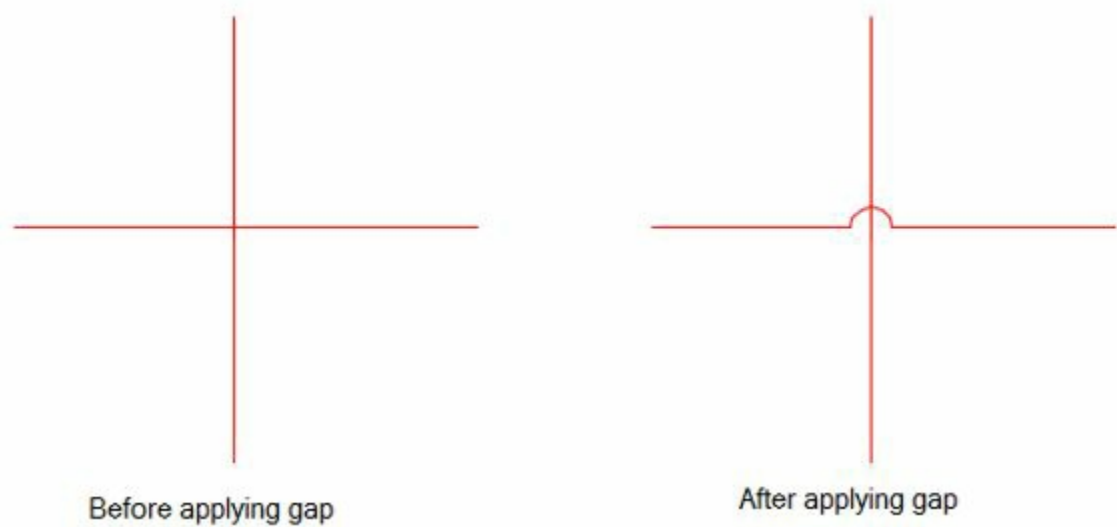

Figure-7. Wires on using Gap tool
- Select the intersecting wire. Gap in the wires will be created; refer to Figure-7.